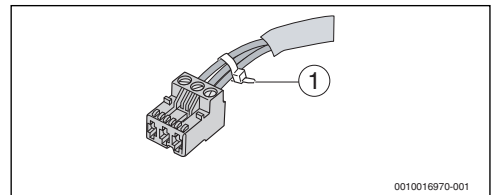

Fig. 14 Fixing the wires
- ▶ Fix together the wires of every cable connected. This can be done by stripping back a short section of cable sheath or with cable ties close to the terminals (→ Fig. 14).
- ▶ Fix together the wires of every cable connected. This can be done by stripping back a short section of cable sheath or with cable ties close to the terminals (→ Fig. 14, page 17).